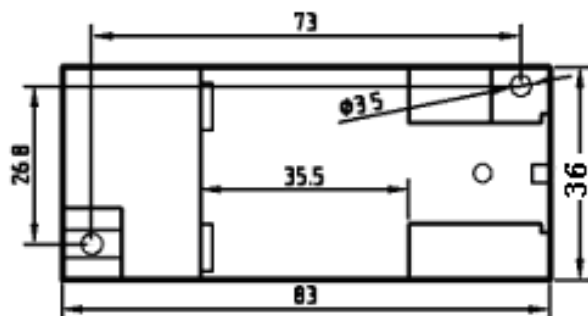

Figure 6: Mounting dimensions
Rail mounting dimensions: 35mm; screws installation size: 73X26.8mm; as shown in Figure 6 (in mm). °
- ①The transducer fixed on the side of the card slot and hook on the mounting rail;
- ②Pull the spring pin down;
- ③Clip the transducer mount on the mounting rail;
- ④Release the spring pin and clip the transmitter on the mounting rail.
- ①4mm diameter hole in the fixed plate according to the position of the screw hole shown in Fig. 6;
- ② Use the screw $\Phi 3$ to insert into hole and secure it.